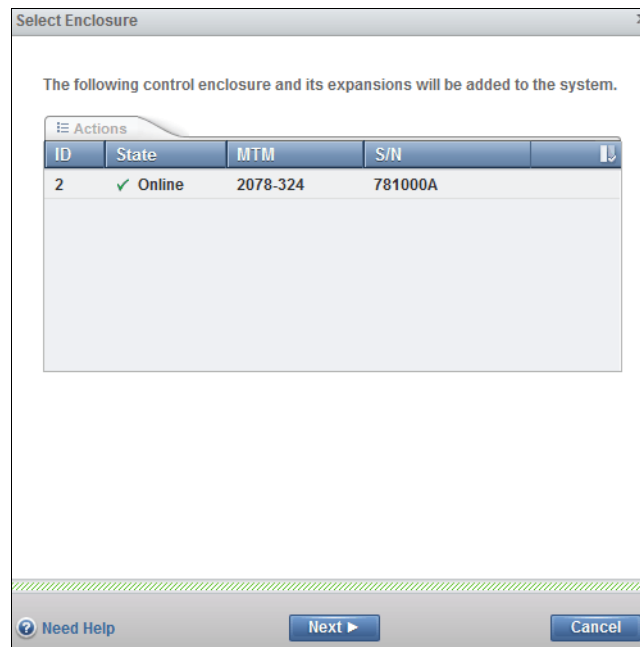

Figure 2-40 New control enclosure identification
2. If the control enclosure is configured correctly, the new control enclosure is identified in the next window, as shown in Figure 2-40.